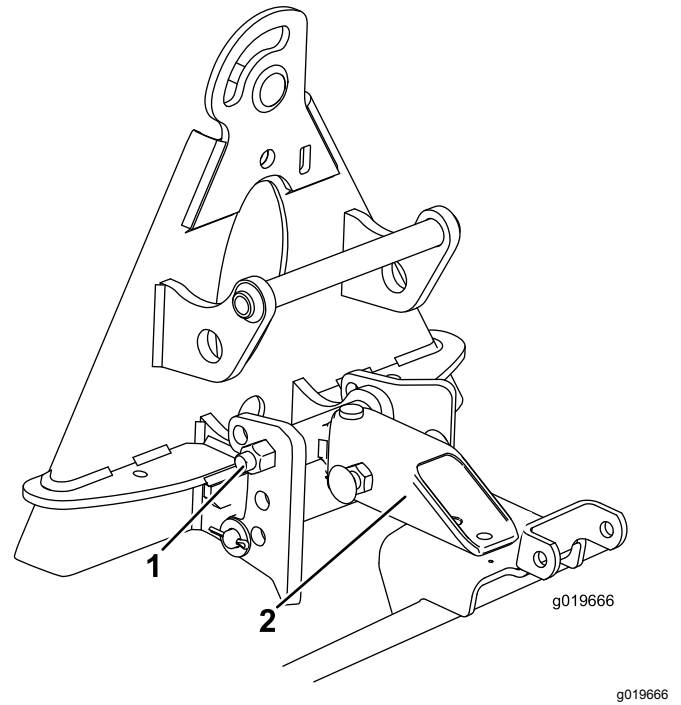

Figure 13
1. Mount the hitch assembly in the top holes of the stop bracket (Figure 13).
2. Align the longer side of the tongue tube down and assemble it to the top side of the hanger assembly (Figure 13).